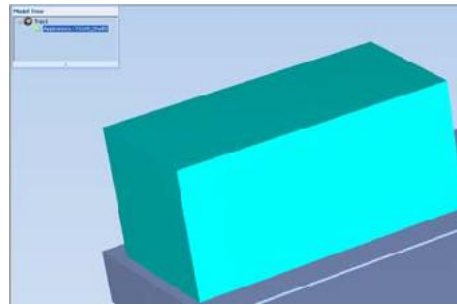

Figure 5-51: Model displayed with bounding box
- With a *Bounding Box* (see figure 5-51 on page 40)